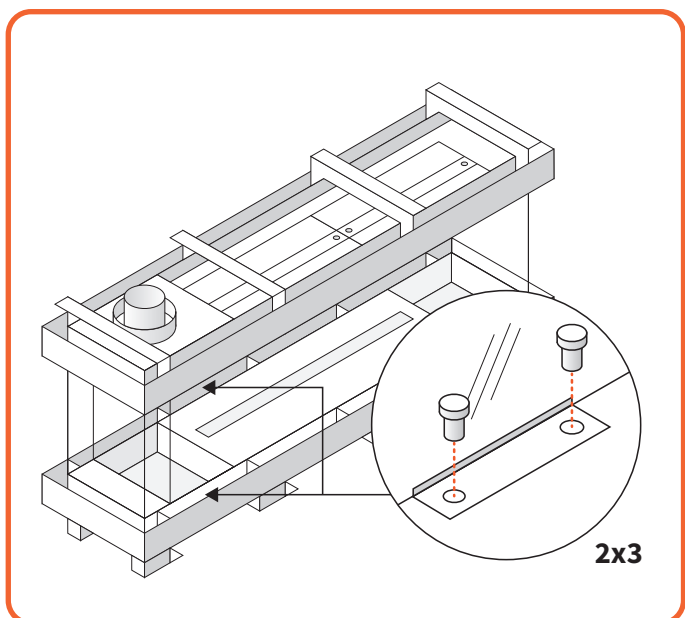

Figure 9.16 | Remove glass clamps on the sides
- Remove the glass clips by loosening the screws. (See Figure 9.16)